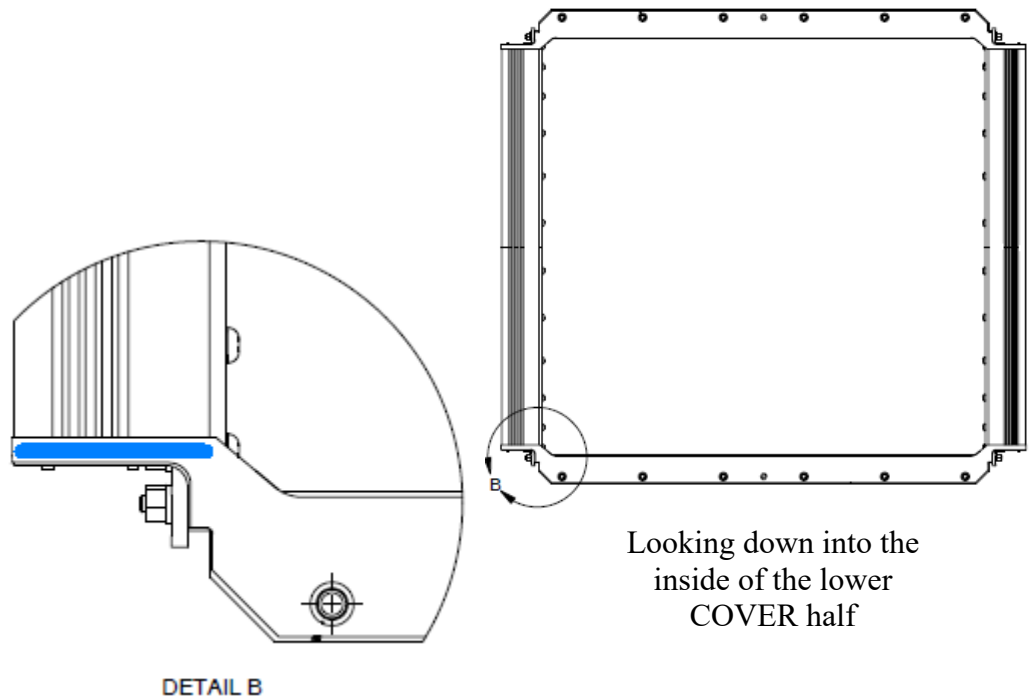

Figure 2-22: Joining Compound Applied to Seal of SS Cover
- c. For the stainless steel COVERS, apply a coating of the blue Joining Compound (comes in the Installation Kit) as shown in *Figure 2-22* onto the section of flange seal over the 2.35" (60mm) length where it covers the boot seal.